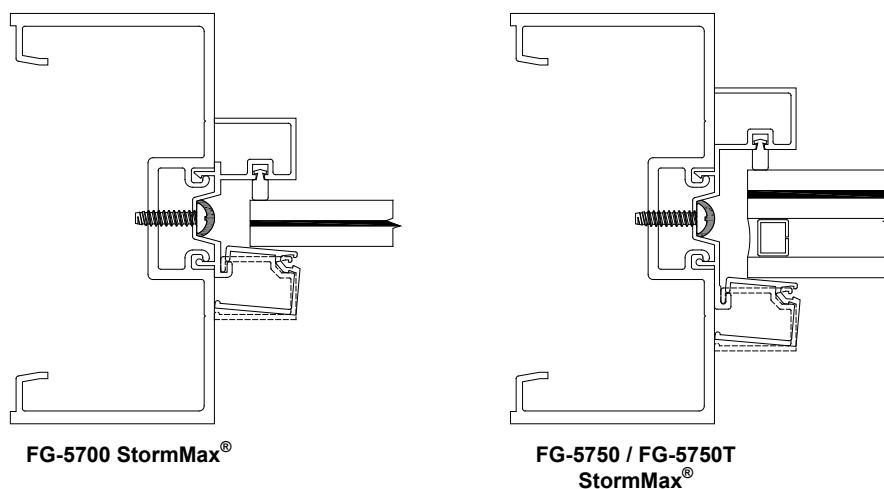

Figure 45: Transom Sash Stop Installation
14.2.3 Install Transom Sash Stops in the order listed below. Install by hooking the leg of the Stop over the mating leg of the Transom Sash, taking care to avoid damaging the glass. Then slide the Transom Stop back toward the exterior to lock in place. For a visual guide, reference Figure 45.